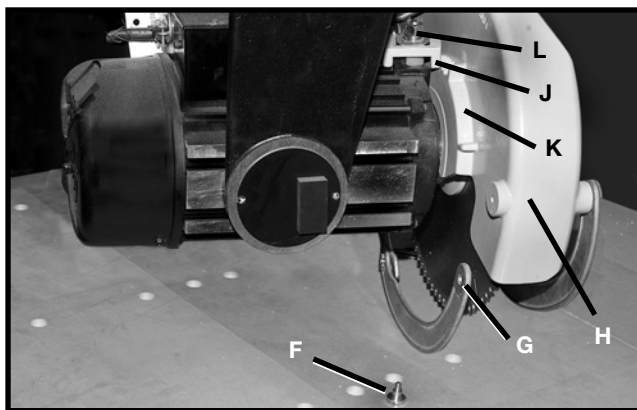
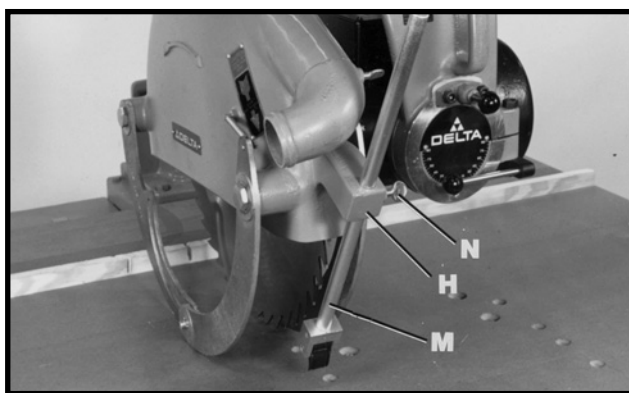

Fig. 25
Fig. 27
4. Remove screw (F) Fig. 25 that attaches inside leaf guard (G) to rear of blade guard (H).
5. Assemble blade guard (H) Fig. 25, to motor housing. Position bracket (J) over motor housing and blade guard flange (K) and loosely fasten 1/2-13 hex nut (L) with wrench supplied.
7. Assemble anti-kickback rod (M) Fig 27 to blade guard (H), and fasten in place with thumb screw (N). **NOTE:** It will be necessary to tilt the blade guard (H) to the rear in order to assemble anti-kickback rod (M). Tighten nut (L) Fig. 25.